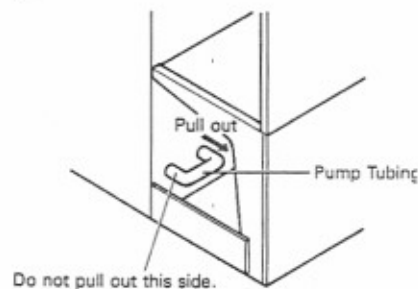

Fig. 10
- 7) Remove one end of the Pump Tubing, and drain the Water Tank. See Fig. 10.
- 5) Remove one end of the Pump Tubing. Drain the Water Tank. Replace the Pump Tubing in its correct position. See Fig. 10.